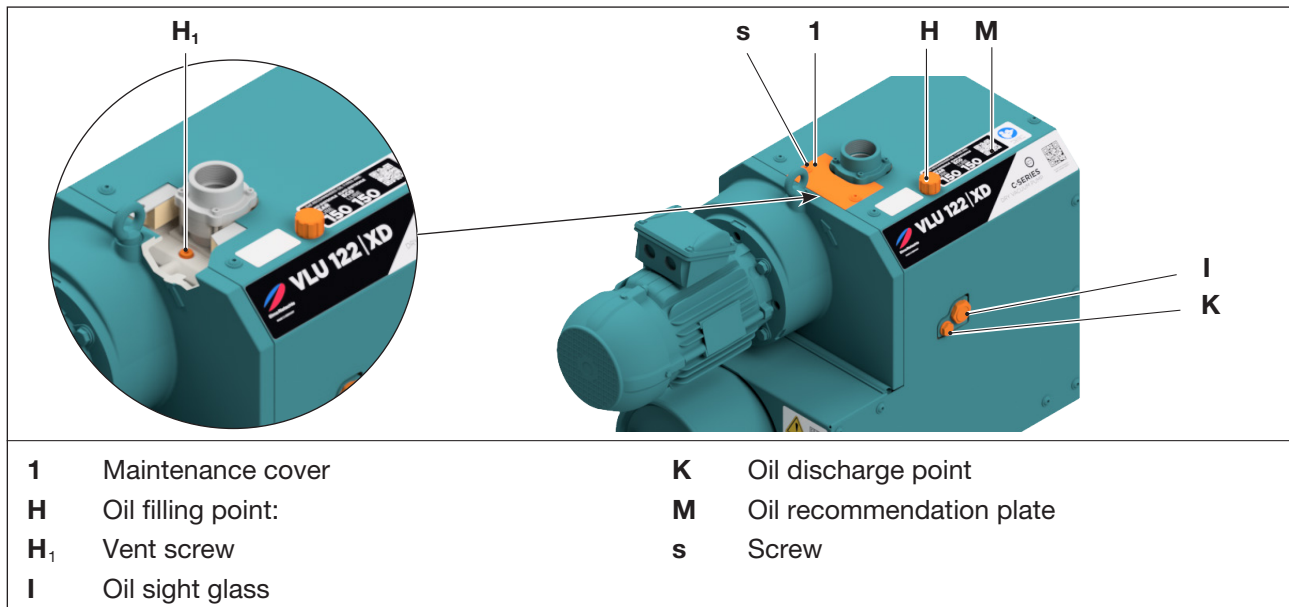

Fig. 5 Oil change
As operating agent, we recommend Elmo Rietschle oils, see the recommendation for on plate (Fig. 5/M) as well as Tab. 3 on page 30:
Check the oil level in the sight glasses (Fig. 5/l) every month.
- b) Remove two screws (Fig. 5/s) from the maintenance flap (Fig. 5/1) and remove the maintenance flap.
- c) Open the vent screw (Fig. 5/H1).
- d) Open the cap of the oil filling point (fig. 5/H) and fill with new oil. Check the oil level in the sight glass (Fig. 5/l).
- Remove two screws (Fig. 5/s) from the maintenance flap (Fig. 5/1) and remove the maintenance flap.
- Open the vent screw (Fig. 5/H₁), open the oil discharge point (Fig. 5/K) and completely discharge the used oil.
- Close the oil discharge point (Fig. 5/K) and fill in new oil through the oil filling point (Fig. 5/H). Check the oil level in the sight glass (Fig. 5/I)